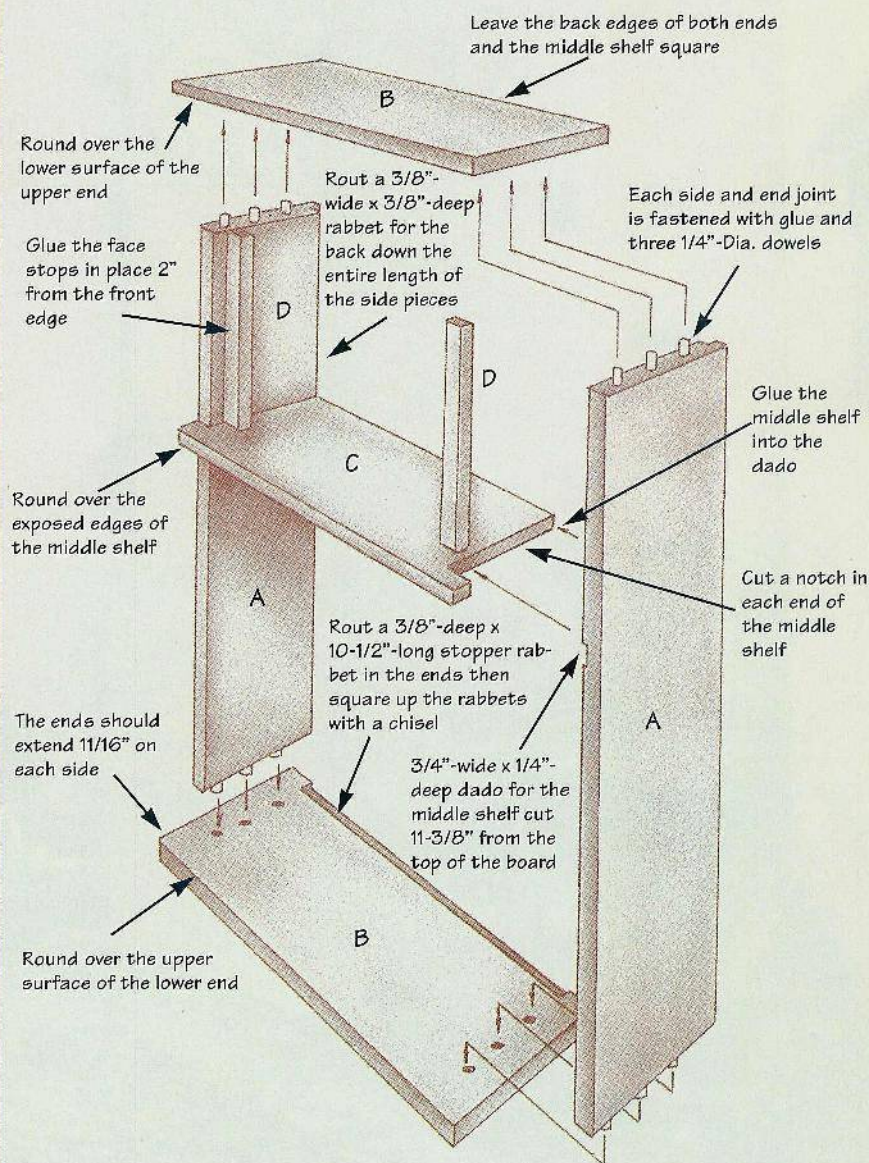

Fig. 1. Assemble the carcass.
Size the stock for the sides (A), ends (B), middle shelf (C), and face stops (D) to the dimensions indicated in the Bill Of Materials. After they are squared up, a dado for the center shelf should be cut into each side (see Fig. 1).